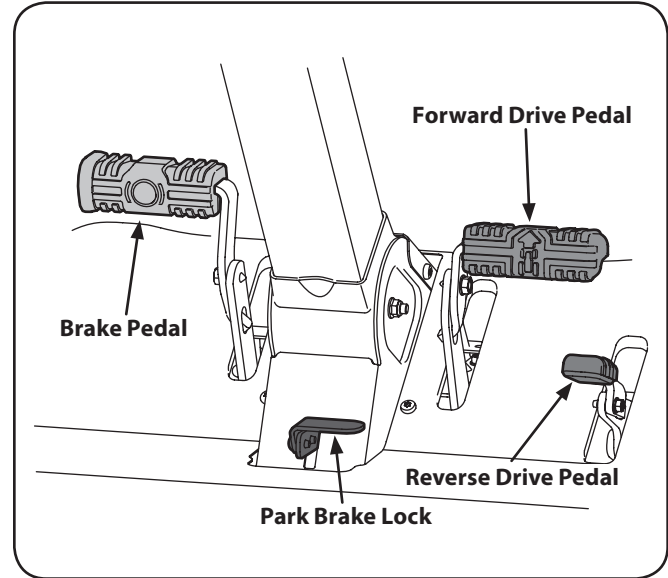

Figure 5-1
To set the parking brake (Refer to Figure 5-1):
To release the parking brake (Refer to Figure 5-1):
- To travel FORWARD, slowly press the forward drive pedal  forward until the desired speed is achieved. See Figure 5-1.
- To travel in reverse, look down and behind the rider and slowly push down on the reverse drive pedal  with the ball of your foot (NOT your heel) until the desired speed is achieved. See Figure 5-1.